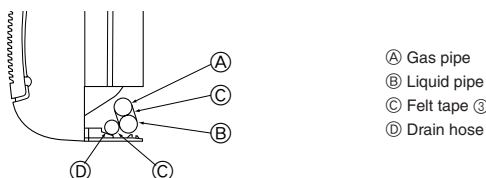

Fig. 5-3
5.2. Completing the piping (Fig. 5-3)